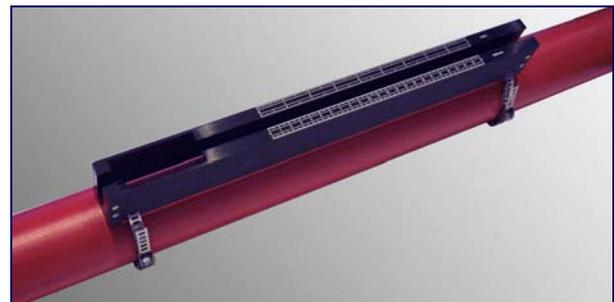

Figure 2.6
2. Position the guide rail horizontally on the pipe at 45° to the horizontal and secure it in position using the stainless steel banding as shown in Figure 2.6.